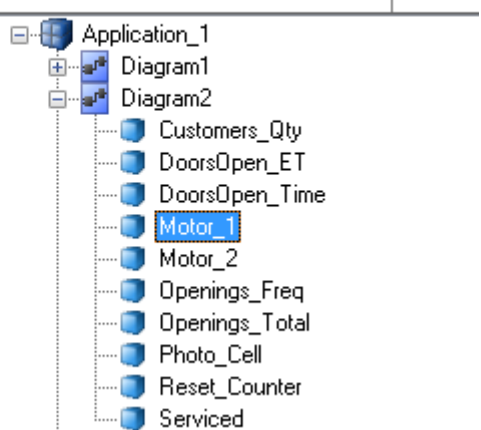

Figure 47. The path for **Motor\_1** variable selected in the tree
- Expand **Application\_1 > Diagram2**. Double-click **Motor\_1** to insert the full path, see Figure 47.